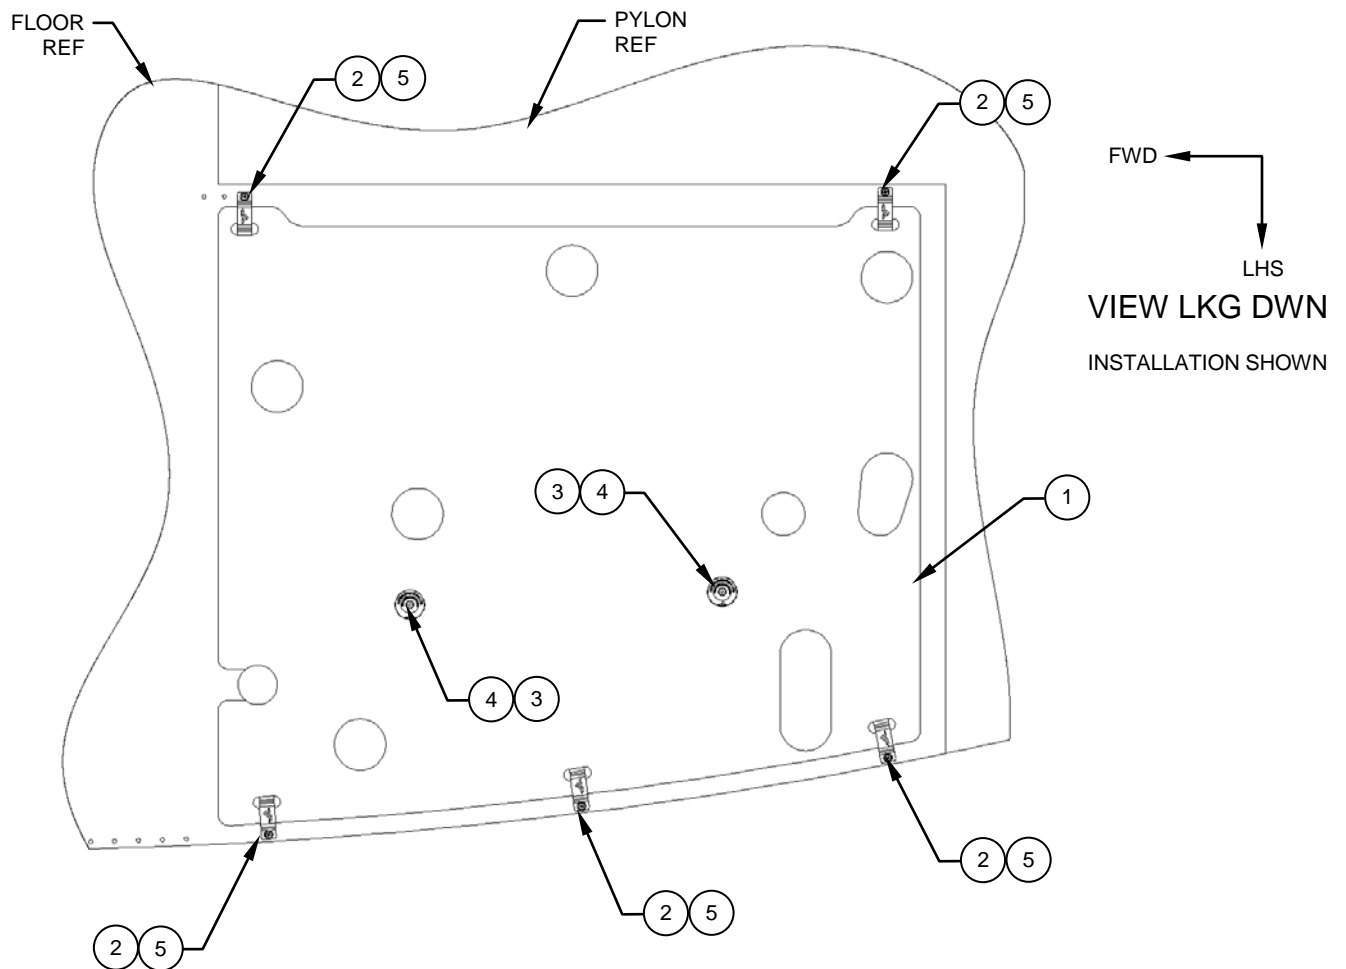

Figure 3
4. Install the Clip Details, Item 2, and mounting hardware in the existing hardware locations. Reference Figure 3 & 4.
5. Install the Retainer Details, Item 5, and mounting hardware in the existing hardware locations. Reference Figure 3 & 5.